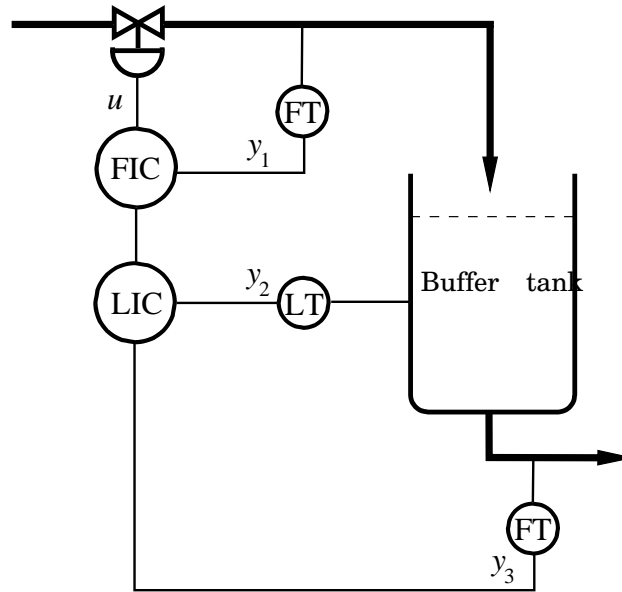

Figure 1 The level control system in Problem 1
1. Figure 1 shows a P/I diagram for level control of a buffer tank. The process has one control signal, u , and three measurement signals, y_1 , y_2 , and y_3 .